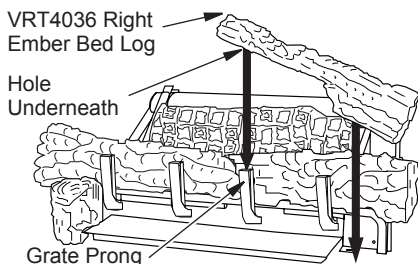

Figure 31 - Installing Right Ember Bed Log
- The VRT4032 and VRT4036 use two different right ember bed logs. The VRT4032 right ember bed log is installed in the same manner as the log in step 3 above but on the right side. The VRT4036 right ember bed log has a hole in the bottom that sets on the grate finger and the other end rest on the fireplace floor, place log as shown in Figure 31. The back side of this log needs to rest against the front of the base assembly, make sure the flame from the ember pan does not touch the ember bed log.